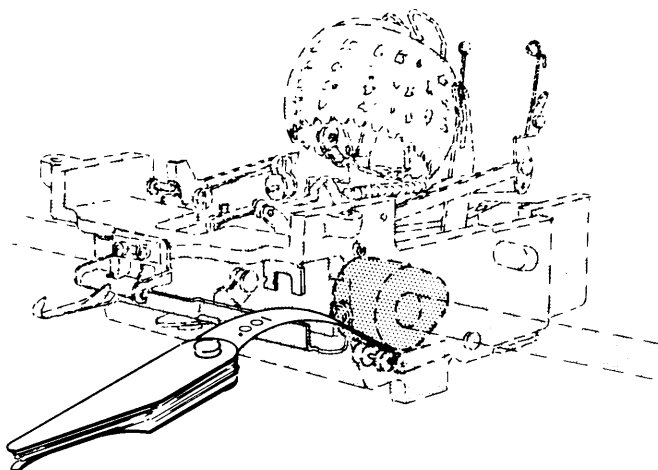

FIGURE 83. Feeler Gauge Trapped
- c. With the machine resting on its back, place a .001" or .002" feeler gauge between the print cam and the follower roller (Fig. 83). This can be accomplished by manually holding the rocker toward the platen while inserting the feeler gauge from the front of the carrier (to the right of the carrier pointer) just above the line lock bracket. With the gauge